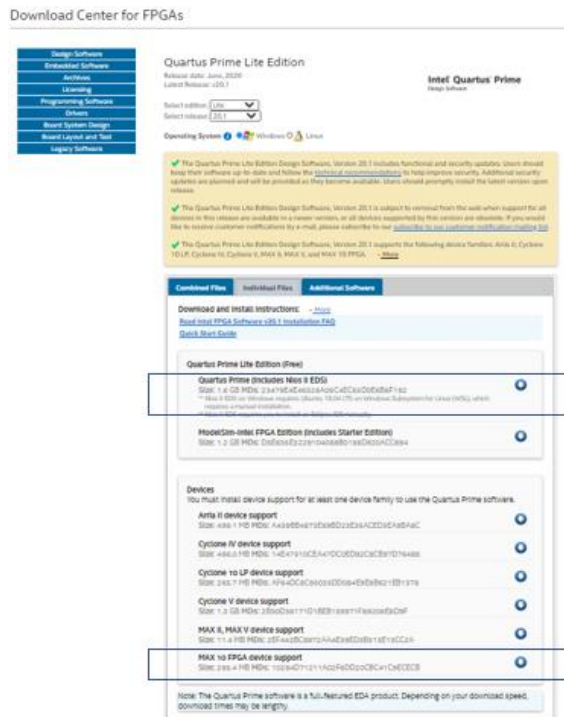

Figure 1: Quartus Prime Lite Minimum Required Files to Download
- ☐ For the smallest installation and quickest download time, select only the fields shown below in Figure 1.